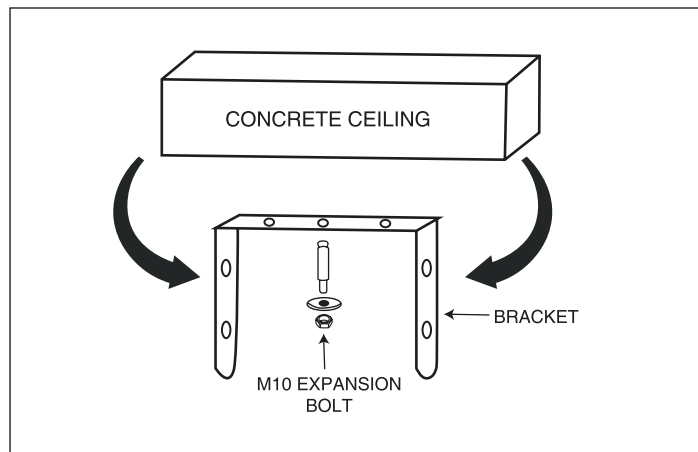

FIGURE 4A - SINGLE-BOLT MOUNTING
2. Mount the bracket with the concrete ceiling. Refer to Figures 4A and 4B.
- Place the M10 Expansion Bolt(s) and Washers as shown in the Figures 4A or 4B.
- **Figure 4A:** For single-bolt mounting (center bracket hole only).